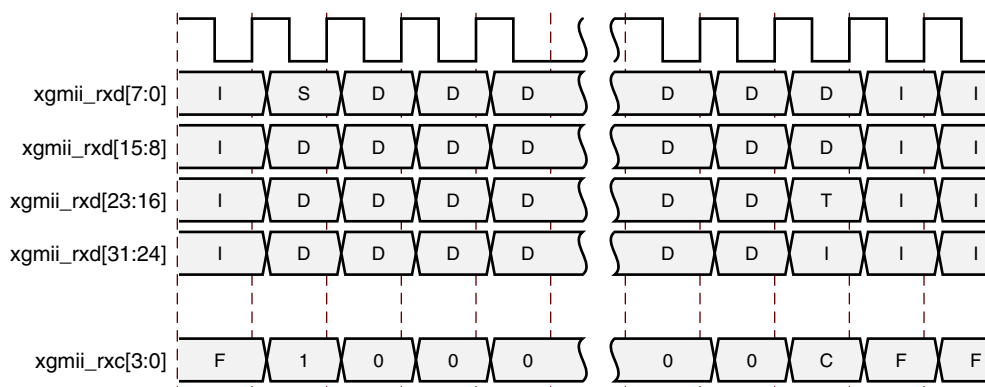

Figure 3-13: Frame Reception Across the 32-bit XGMII Interface
The timing of a normal inbound frame transfer is shown in Figure 3-13. As in the transmit case, the frame is delimited by a Start character (S) and by a Terminate character (T). The Start character in this implementation can only occur in lane 0. The Terminate character, T, can occur in any lane. The clock source for Figure 3-13 can be determined from Table 3-1.